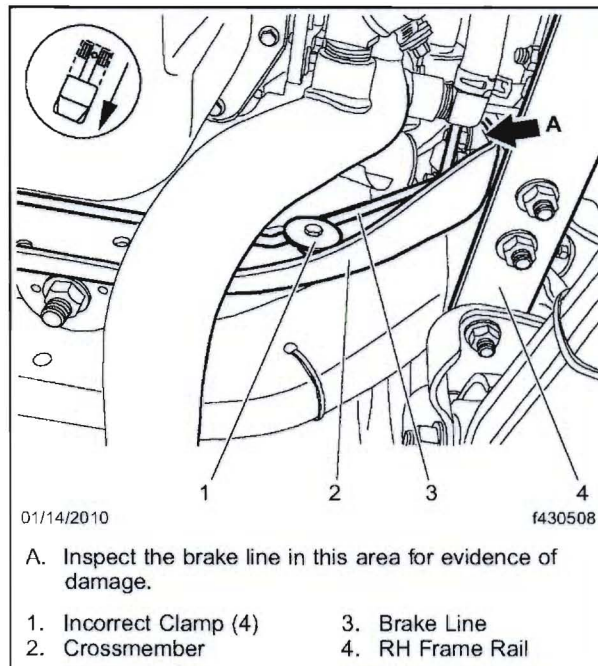

Fig. 1, Brake Line Inspection and Clamp Identification
4. Inspect the brake line for evidence of damage due to rubbing on the surrounding components. Specifically check the area around the coolant fitting that supplies the Webasto heater system. See **Fig. 1**.